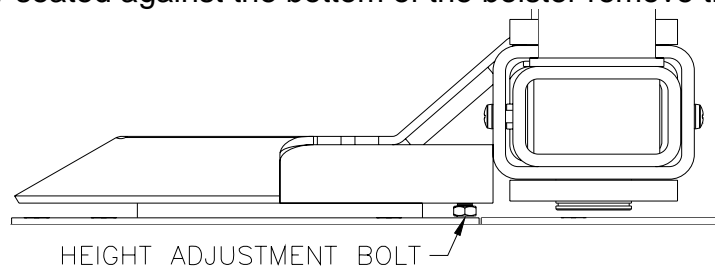

Fig. 10
26. With the lift lowered, arms extended fully and foot pad in the lowest position, check clearance of the footpad screw to ensure it does not make contact with the floor. Use the height adjustment bolt (see figure 10) to either raise or lower the bolster as necessary. If there is more then 3/8” of clearance on both screws with the bolt fully seated against the bottom of the bolster remove the bolt.